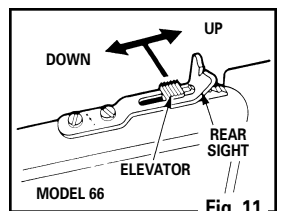

Fig. 11
- Model 66:** The rear sight may be adjusted to shoot higher or lower (elevation). Move the rear sight elevator back to make the BB or pellet hit higher on the target. Move the rear sight elevator forward to make the BB or pellet hit lower on the target. When moving the elevator, slightly lift the rear sight and reset it on the desired notch in the elevator (Fig. 11).